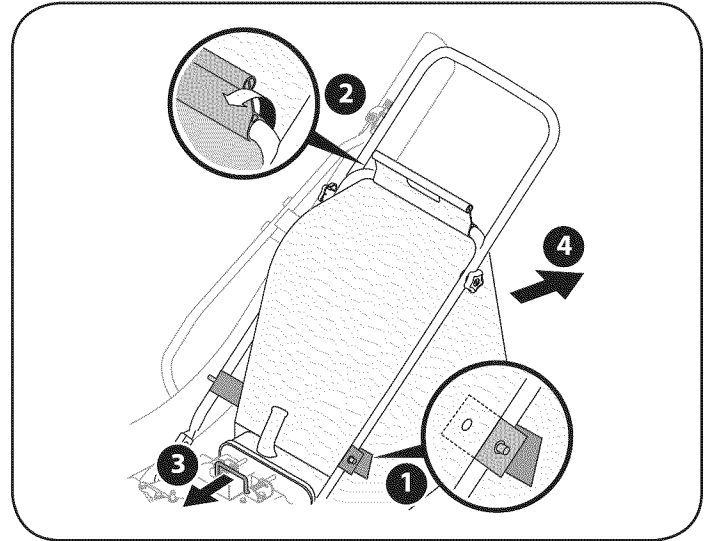

Figure 15
2. Unsnap bag clip from the top of lower handle. See Figure 15.